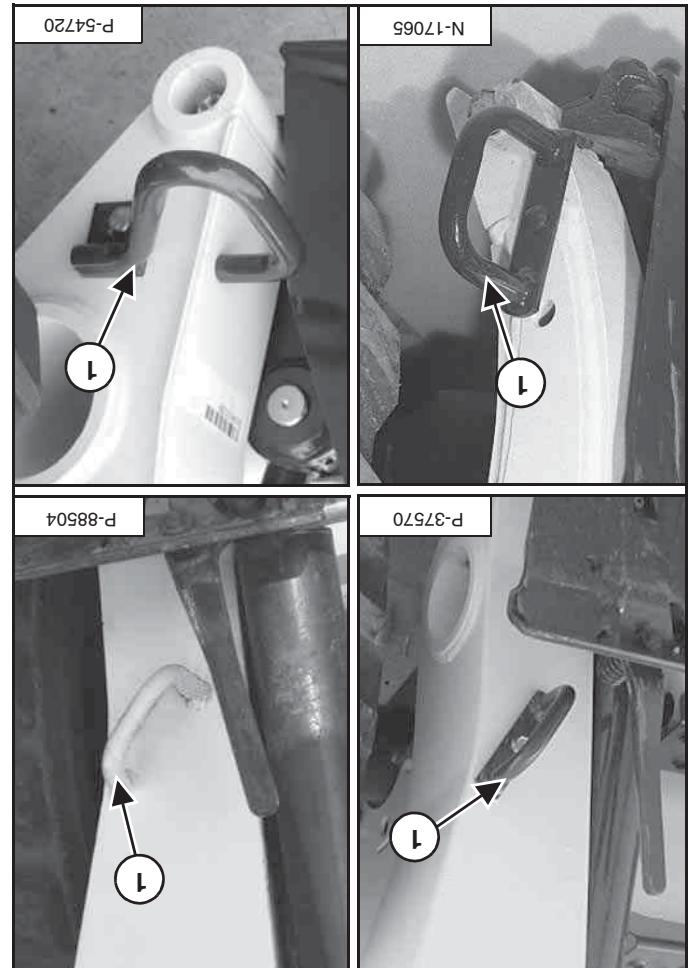

Figure 17
Install the correct hose guide (item 1) [Figure 17] on the loader.